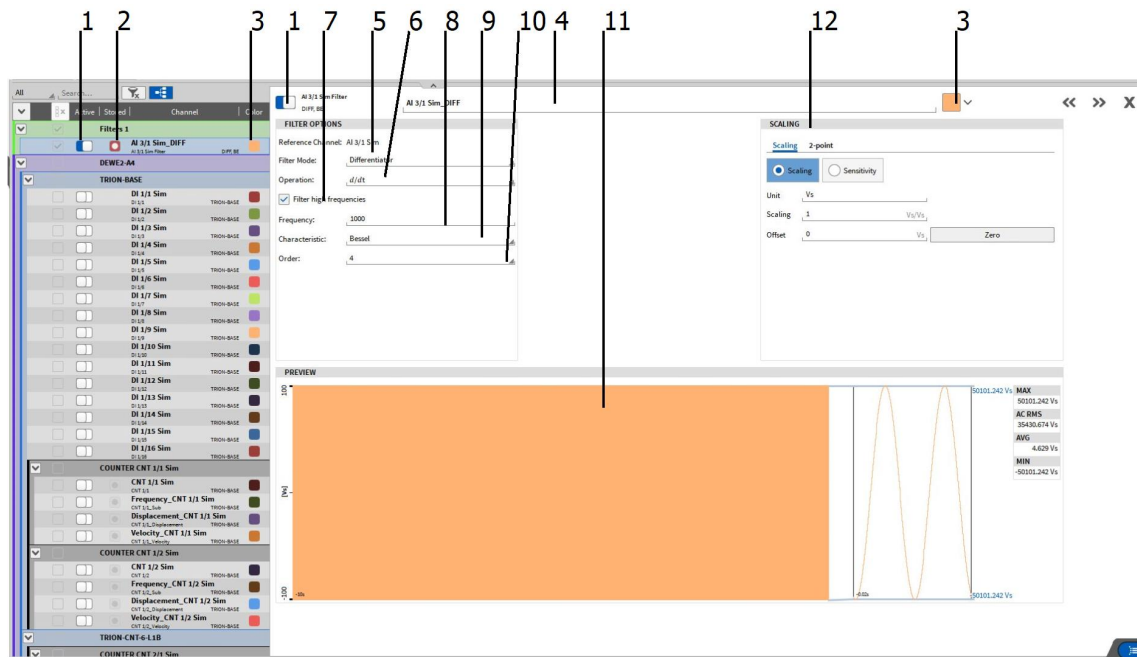

Fig. 7.96: Filter channel setup - overview
- After pressing enter, the channel will appear in the *Data Channels* menu. The defined channel parameters can be changed afterwards in the Channel Setup (see Fig. 7.96).